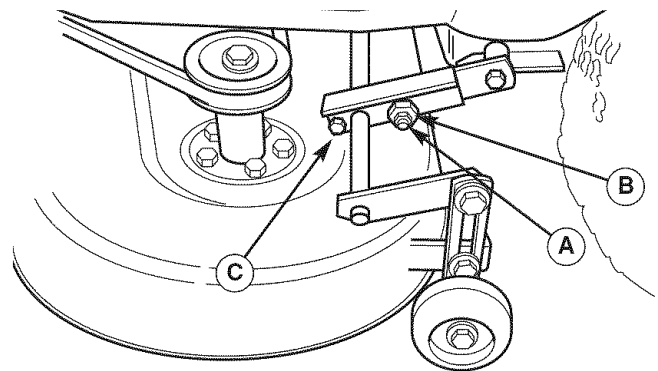

Figure 35. Side-to-Side Adjustment
6. See Figure 35. Loosen the outside nut (A) and taptite screw (C), then turn the eccentric nut (B) to raise or lower the left side of the deck. When the mower deck is level, hold the eccentric nut while tightening the outside nut. Tighten the taptite screw (C).